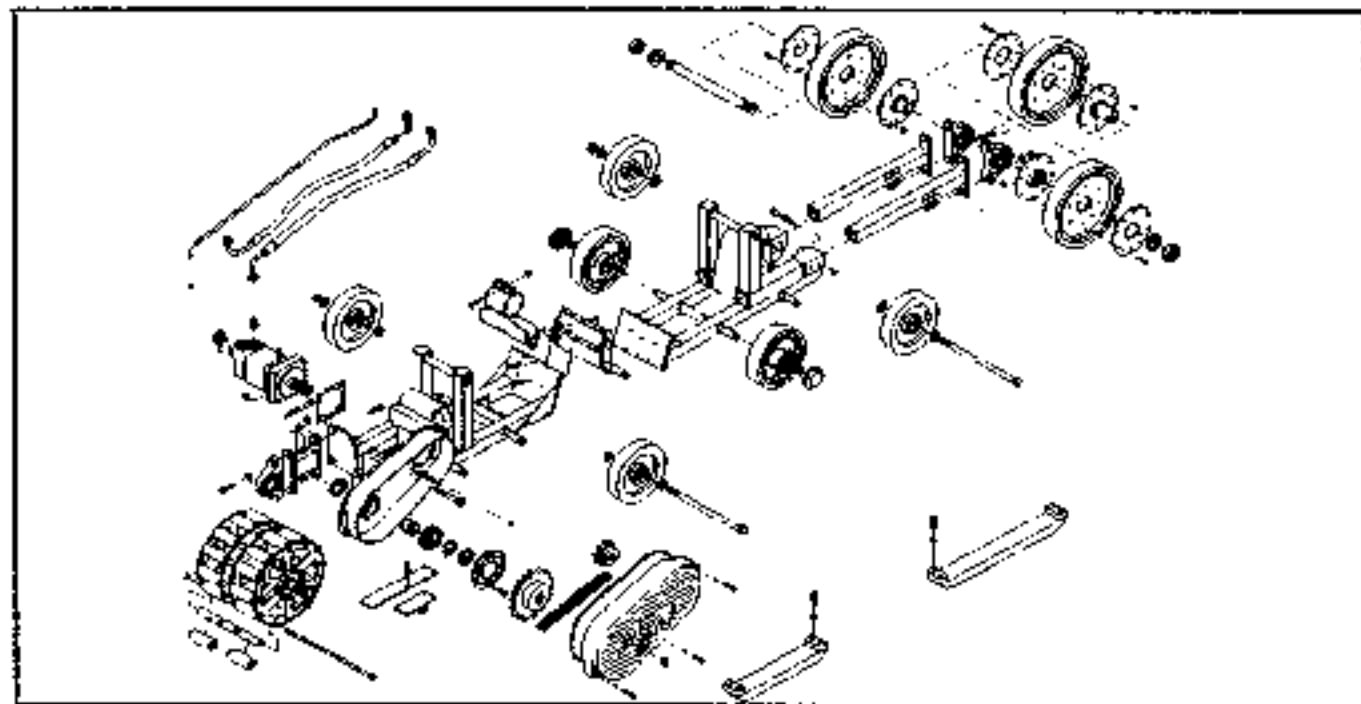

FIG 66
9) The illustration below (Fig 66) shows the complete break down of the suspension for reference purposes.